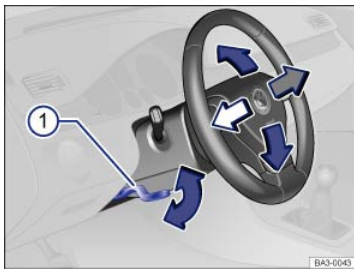

Fig. 72 Manual adjustment for the steering wheel position.
The steering wheel can be adjusted up and down (blue arrows) or forward and back (white and gray arrows) ⇒ Fig. 72.
- Push down on the lever ⇒ Fig. 72①.
- Always pull the lever ⇒ Fig. 72① firmly upward after adjusting the steering wheel so that the steering wheel does not change position suddenly while the vehicle is moving.